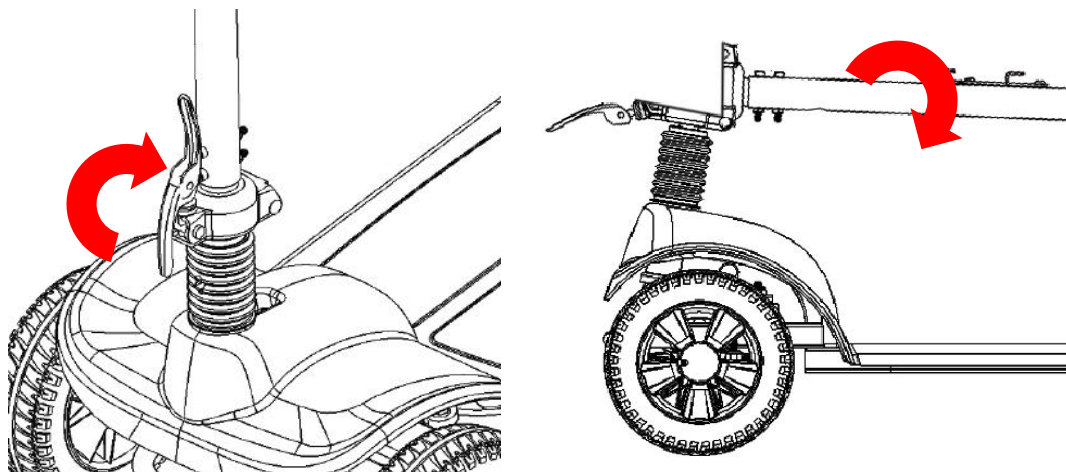

Fig 5.2.3
2. Then pull outward the clasp, fold the tiller (Fig 5.2.3)